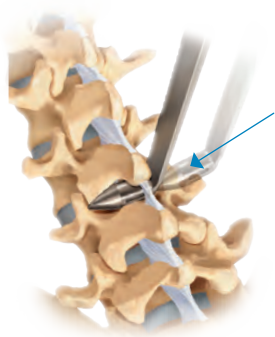

Figure 7
- After inserting the rasp into the interspinous space, rotate the instrument cephalad and caudad to decorticate the spinous processes and prepare the fusion site (**Figure 7**).